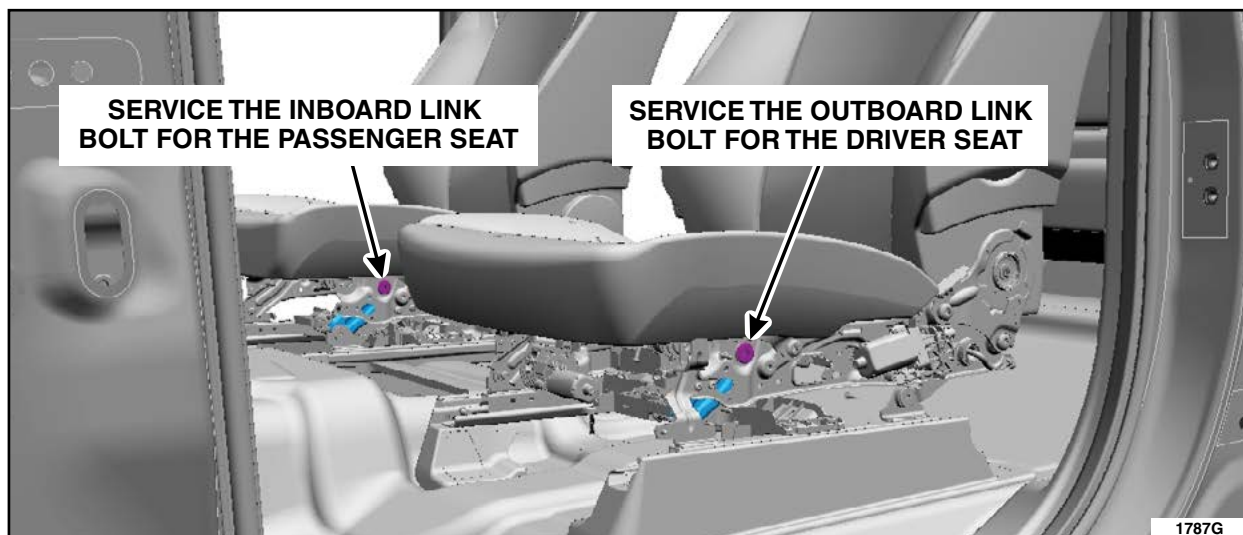

FIGURE 1
NOTE: The driver and passenger seat tracks are identical. The affected seat track pivot link will be located on the outboard side of the drivers seat, and the inboard side for the passenger seat. See Figure 1.
4. Check the pivot link bolt break-away torque. Using a torque wrench set to 10 Nm (16 ft-lb), attempt to loosen the seat track pivot link bolt. See Figure 1.
5. Remove the seat track pivot link bolt. See Figures 1 and 2.